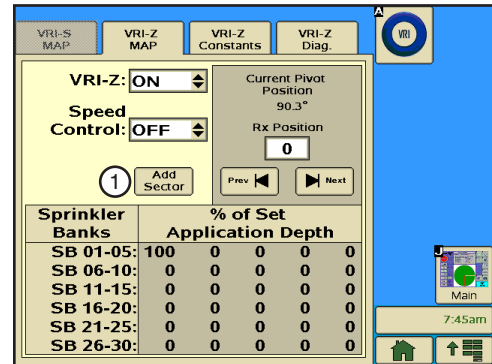

Figure 56-1 1. Add Sector Button
1. Push **Options**, **VRI**, **VRI-Z Map** to display the VRI-Z Map screen. Refer to Figure 56-1.